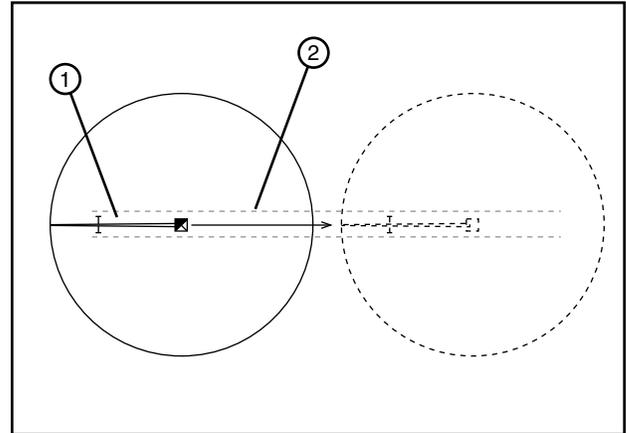

Figure 53-1 1. Machine
1. Position the machine in the tow lane. When positioning the center pivot, always use the "STOP" button on the control panel to stop the center pivot. NEVER stop the center pivot with the control panel or service disconnect switches. See Figure 53-1.